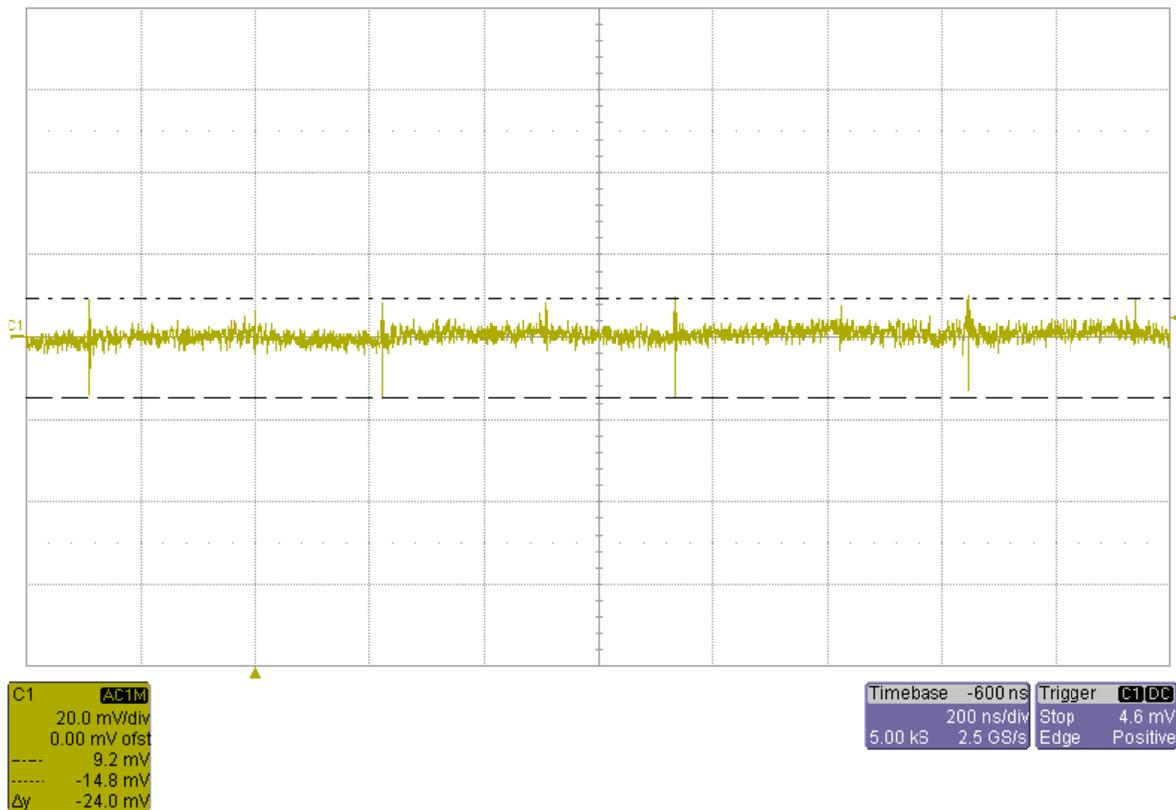

Figure 10: Output Voltage Ripple of 1V8_BUCK at 0.5 A
- Figure 10: Output Voltage Ripple of 1V8_BUCK at 0.5 A